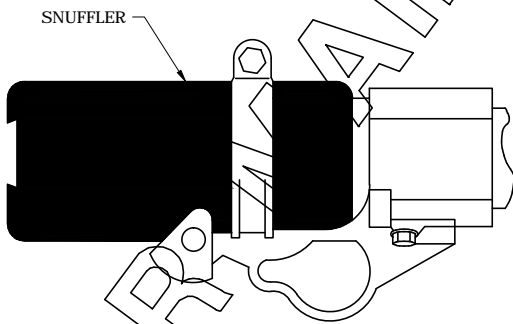

FIGURE 3
- STEP 3 UNSCREW AND REMOVE SNUFFLER. A BAR OR WRENCH HANDLE CAN BE USED TO LOOSEN SNUFFLER. (SEE FIG. 3)